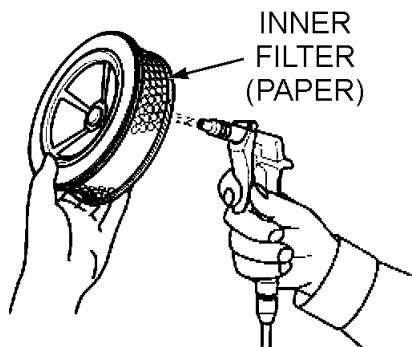

Figure 33. Cleaning Inner Paper Filter
6. To clean the paper air filter (Figure 33), tap the filter element several times on a hard surface to remove dirt, or blow compressed air [not to exceed 30 psi (207 kPa, 2.1 kgf/cm²)] through the filter element from the air cleaner case side.